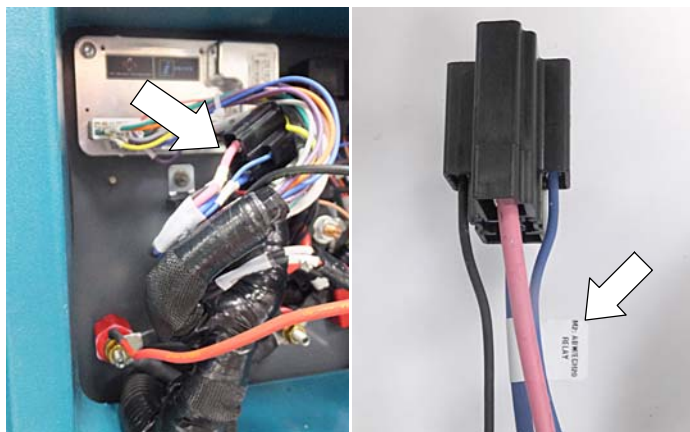

Fig. 20
- Locate the factory installed relay harness connector (Figure 20). The connector is labeled "ABW/ECH2O".